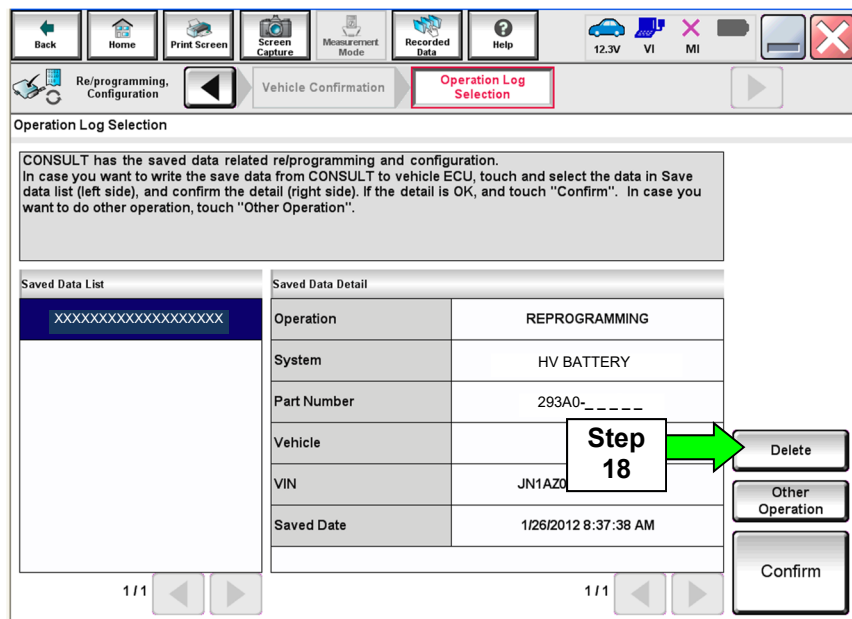

Figure 12
- If the screen in Figure 12 appears, first select **Delete** then **Confirm**, and then **Other Operation**.